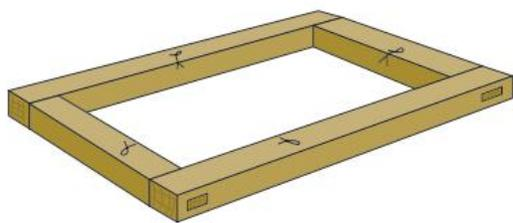

Figure 5.18 Frame assembly, showing position of face marks
- the members of a frame can be arranged correctly, with face edges inwards and face sides all on one side of the work (Figure 5.18).